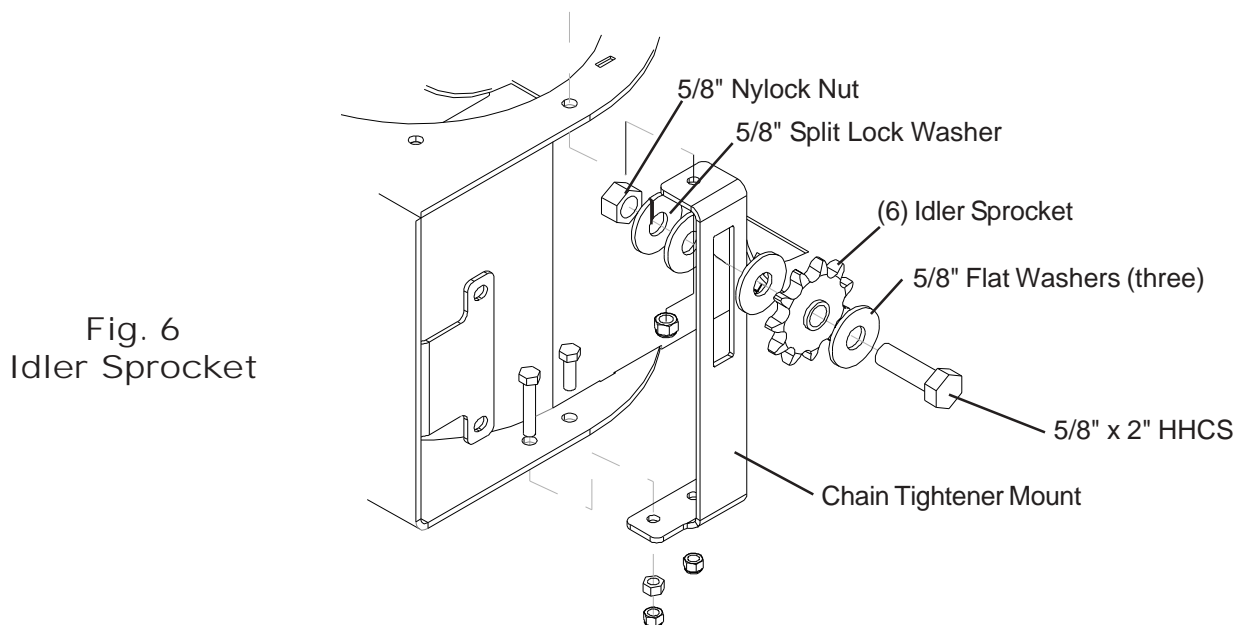

Fig. 6
- F. Assemble chain onto sprockets. Tighten the chain using the idler sprocket (6), which should be attached with two 5/8" x 2" HHCS, three flat washers, one split lock washer and nylock nut. (The chain should run underneath idler sprocket.) (See Fig. 6)